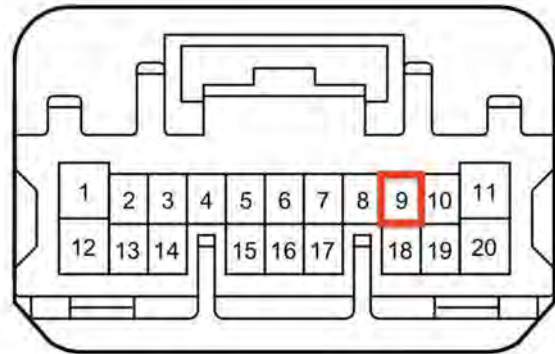

Figure 34
- (a) T-Tap the LIGHT GREEN remote mirror wire (Pin #9) with the supplied RED T-tap. Figure 34.